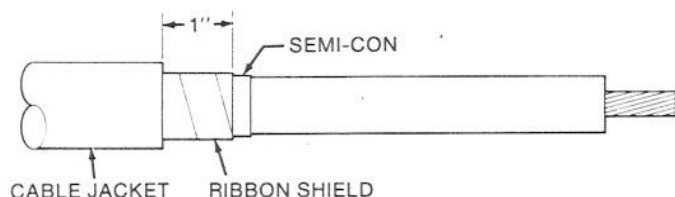

Figure 1
1. Cut shielding off evenly, leaving one inch exposed beyond jacket cut off. Figure 1.